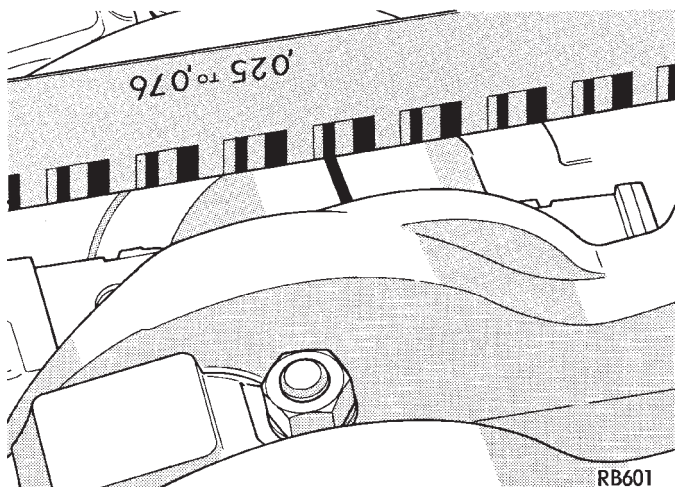

Fig. 21 Measuring Bearing Clearance with Plastigage—Typical
- (2) Remove oil from journal and bearing shell.
- (3) Install crankshaft.
- (4) Cut plastigage to same length as width of the bearing and place it in parallel with the journal axis (Fig. 21).
- (5) Install the main bearing cap carefully and tighten the bolts to specified torque.
(6) Carefully remove the bearing cap and measure the width of the plastigage at the widest part using the scale on the plastigage package (Fig. 21). Refer to Crankshaft Specification Table for proper clearances. If the clearance exceeds the specified limits. Replace